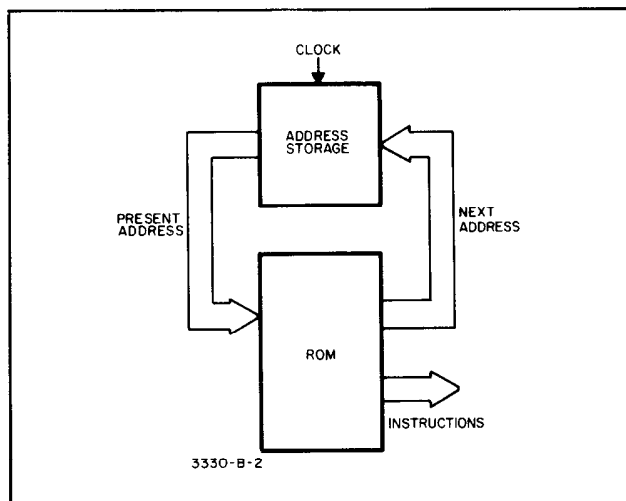
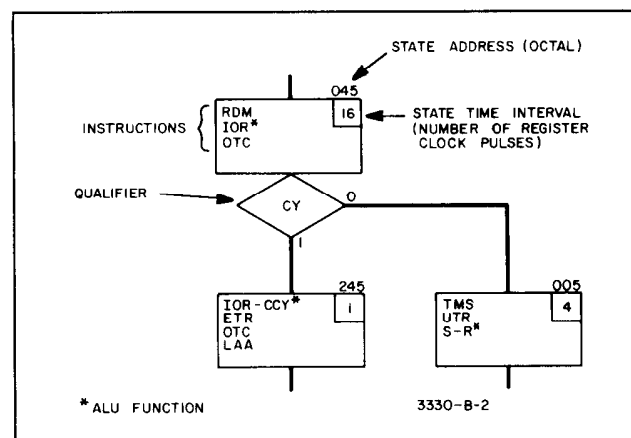
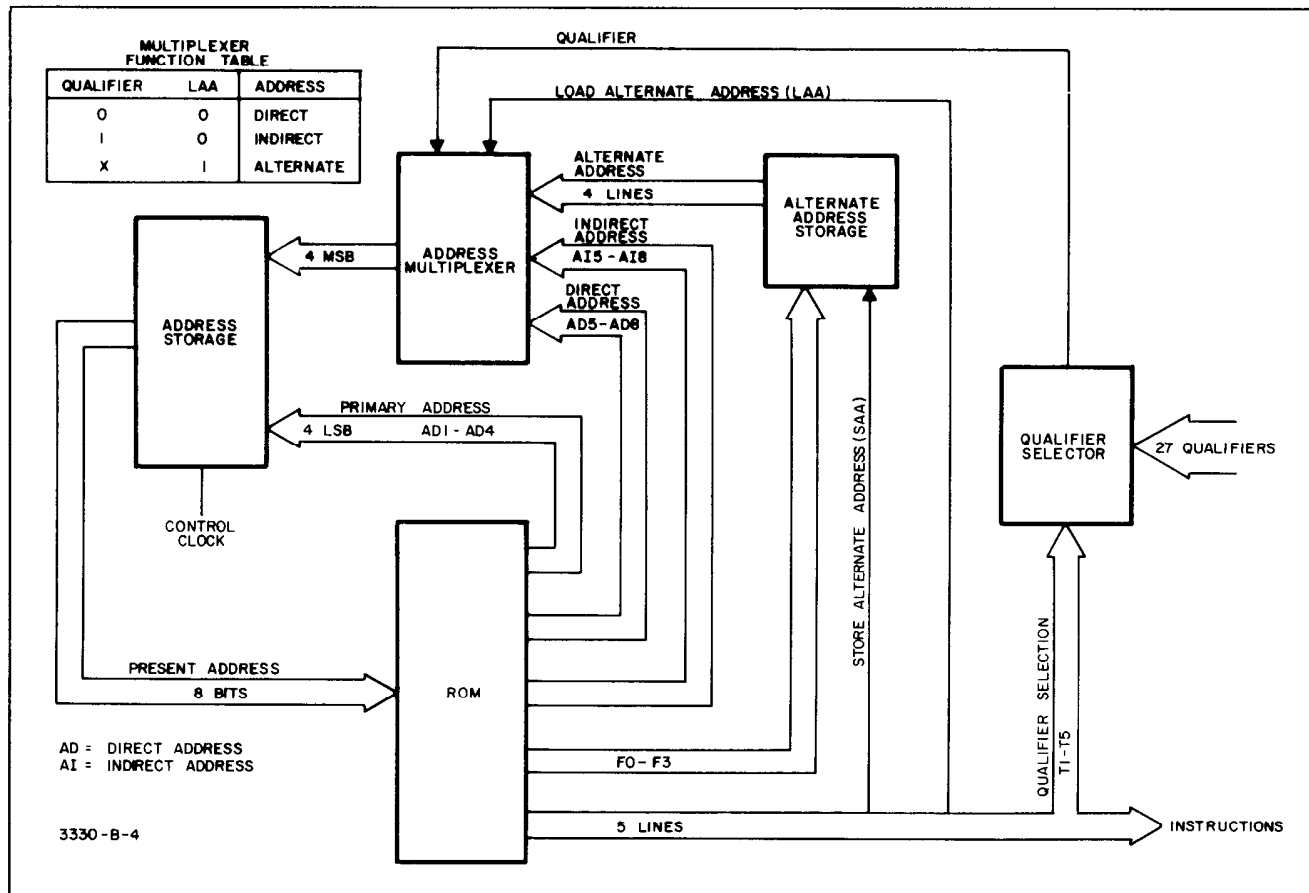

Figure 4-11. Basic ROM Address.
Figure 4-12. Flowchart Example.
Figure 4-14. Address Selection.
**4-37. Logic State.** The input/output condition of the Read Only Memory at any given time is referred to as the “state”. In order to identify a state, it is given the octal number of the input address. Since there are 256 possible states, some method is needed to change from one state to another. It would be possible to use a sequential counter to step the ROM through each state, but this is not practical because the 3330A/B needs the ability to branch, or to go to any state at random, or to repeat a state or series of states. Consequently the controller uses ROM outputs to determine the next state, as illustrated in Figure 4-11. This is a basic illustration, wherein the address of the present state is output from Address Storage to the ROM. The ROM output pattern (next address) is applied to the Address Storage inputs. The next clock pulse then transfers the next address to the storage outputs and ROM inputs “changing the state” of the ROM, resulting in a new output pattern.
**4-38. Flowchart.** In order to understand how the Controller gets from one state to another, it is necessary to understand the basic flowchart concept. A flowchart is a step-by-step description of how the control circuits work. The flowchart is also an important service tool because it gives the address, instructions, qualifier, and time interval for each state. Figure 4-12 is a small portion of the flowchart which illustrates the information available. Each rec-
**4-41. Address Selection.** Figure 4-14 is an expansion of the ROM address illustration in Figure 4-11. As the function table in the upper left part of the figure indicates, one of three possible addresses may be selected, depending on the levels of the qualifier and LAA inputs to the multiplexer. Referring back to the flowchart example in Figure 4-12, note that from state 045 the ROM may go to state 245 or 005. In this case, the level of the qualifier determines the next state. The address selected when the qualifier is 0 is the Direct Address, and the address when the qualifier is 1 is the Indirect Address. Now look at the binary bit pattern of both of these addresses:
shown in Figure 4-14. The four most significant bits go through the Address Multiplexer. The four most significant bits for address 005 are called the Direct Address, and these four bits for address 245 are the Indirect Address.
**4-42. Alternate Address.** The Alternate Address (Figure 4-14) is also just the four most significant digits of the ROM address, which are combined with the Primary Address (four least significant bits) to make up the complete address. These four bits are placed on the output lines of the Alternate Address Storage by the SAA (Store Alternate Address) instruction from the ROM. The LAA (Load Alternate Address) instruction selects the Alternate Address output from the multiplexer.